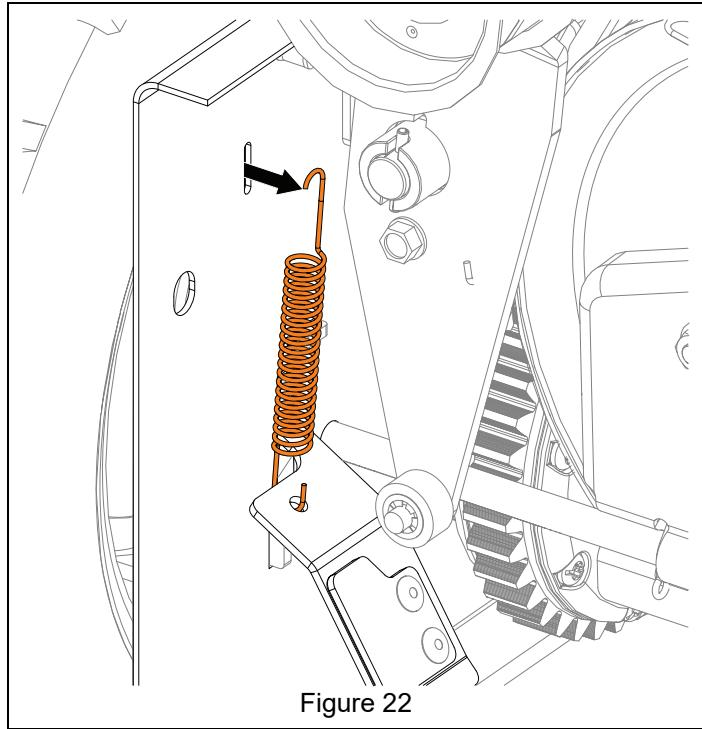

Figure 22
4. Disconnect attachment brake spring from frame. See Figure 22.